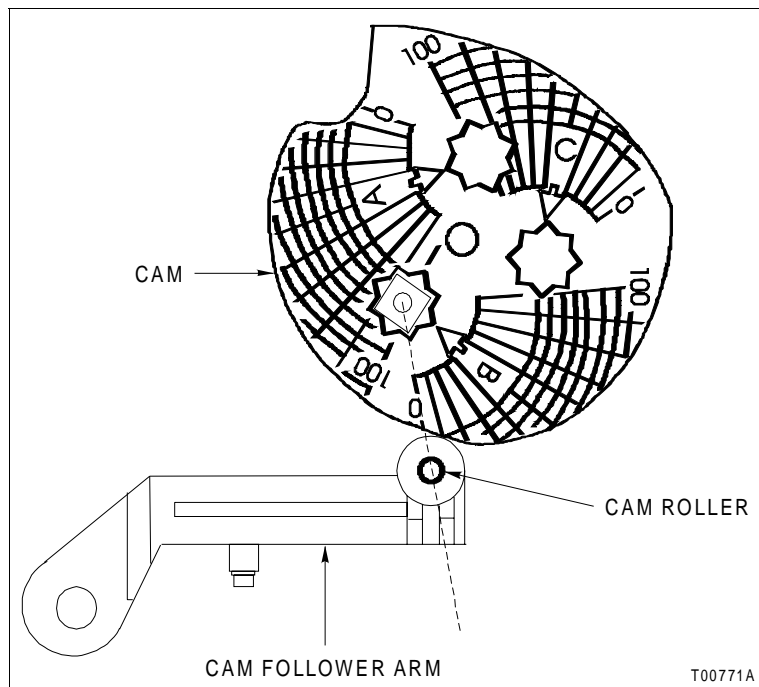

Figure 4-2. Cam Roller Alignment
3. Turn the zero adjustment nut (clockwise moves actuator down range) appropriately until the 0% radial line on the cam intersects with the center of the cam roller (Fig. 4-2).
3. Turn the zero adjustment nut (clockwise moves actuator down range) appropriately until the actuator moves so that the 0% radial line on the cam intersects with the center of the cam roller (Fig. 4-2).